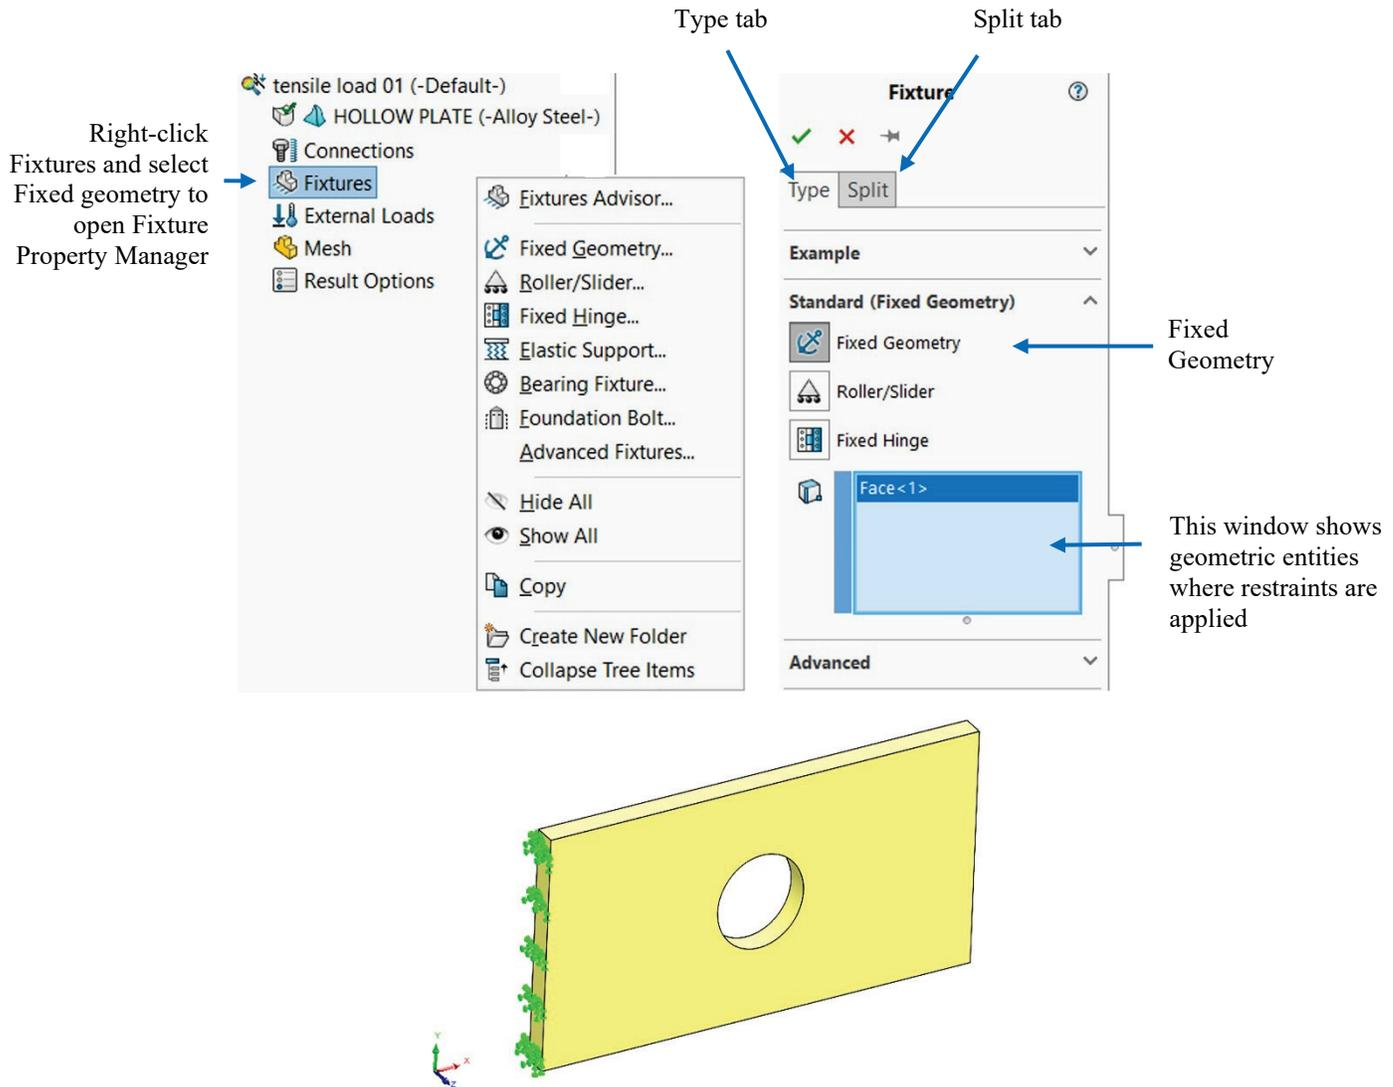

Figure 2-10: Pop-up menu for the Fixtures folder and Fixture definition window.
Having assigned the material, we move to defining restraints. To display the pop-up menu that lists the options available for defining restraints, right-click the *Fixtures* folder in the *tensile load 01* study (Figure 2-10).
The existence of restraints is indicated by symbols shown in Figure 2-10. In the **Symbol** Settings of the Fixture window, the size of the symbol can be changed. Note that symbols shown in Figure 2-10 are distributed over the highlighted face meaning the entire face has been restrained. Each symbol consists of three orthogonal arrows symbolizing directions where translations have been restrained. Each arrow has a disk symbolizing that rotations have also been restrained. The symbol implies that all six degrees of freedom (three translations and three rotations) have been restrained. However, the element type we will use to mesh this model (second order solid tetrahedral element) has only translational degrees of freedom. Rotational degrees of freedom can't be restrained because they don't exist in this type of element. Therefore, disks symbolizing restrained rotations are irrelevant in our model. Please see the following table for more explanations.
- Right-click *Fixtures* folder and select **Hide All** or **Show All** in the pop-up menu shown in Figure 2-10